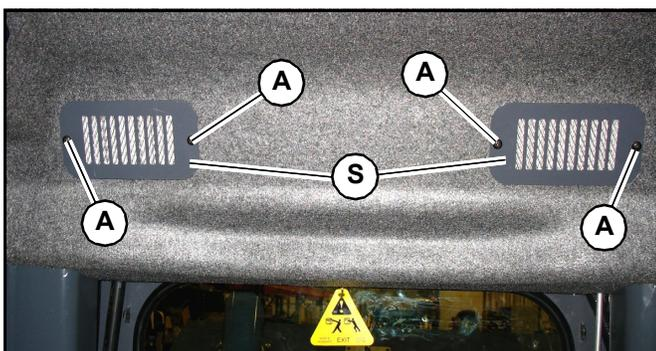

Fig. 176 – Cab Air Filters
2. Remove fasteners (A, Fig. 176) securing filter grilles (S) to the cab wall. Remove and discard the old filter elements.
3. Insert new filter elements and secure with grilles (S) and fasteners (A). Make sure the filter elements are completely seated in the openings and the grilles are firmly seated flush to the cab wall.